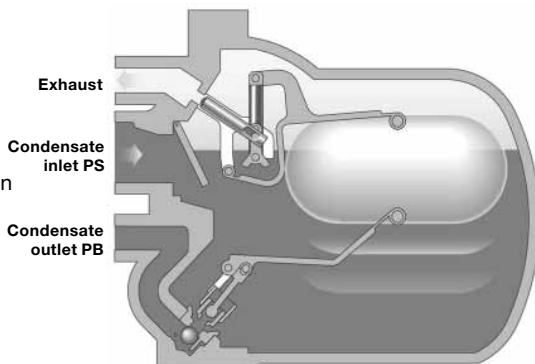

Fig. 5 APT14 shown
Step 2 (Figure 5)
With some temperature controlled equipment, it is possible for the system pressure PS to be lower than the backpressure at PB (Figure 5). If this occurs a standard trap will stall allowing the condensate to flood the equipment being drained.